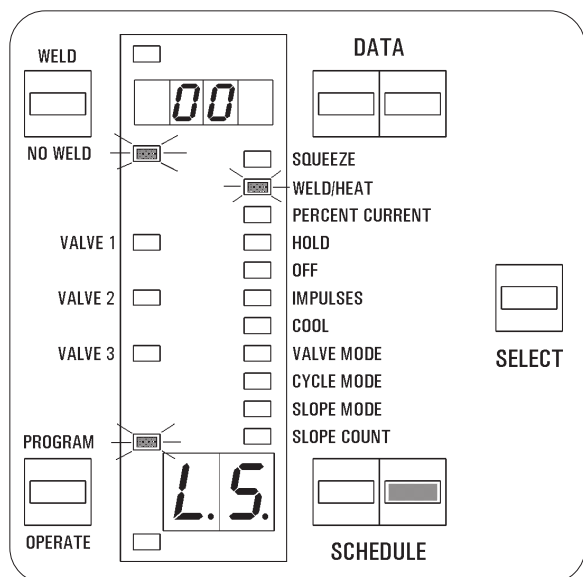

Figure 7-4. Program LAST STEP
3. Press the SCHEDULE push buttons to find **L.5.** in the SCHEDULE display, as shown in Figure 7-4.
4. Program the desired LAST STEP for this stepper; e.g., for stepper **A**, LAST STEP in STEPPER mode **01** may be any number from **00** to **09** (see Figure 7-4); but in STEPPER mode **02**, it may be any schedule number from **00** to **49**. In fact, this value will be first step at beginning of the weld sequence. This value will be reset or reprogrammed after resetting the stepper.